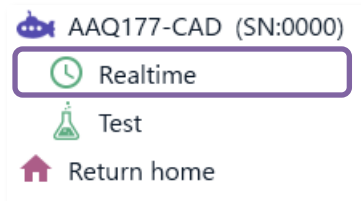

Figure 6.11 Real-time measurement
- (4) Choose “Real-time” from “function menu”. (Figure 6.11)